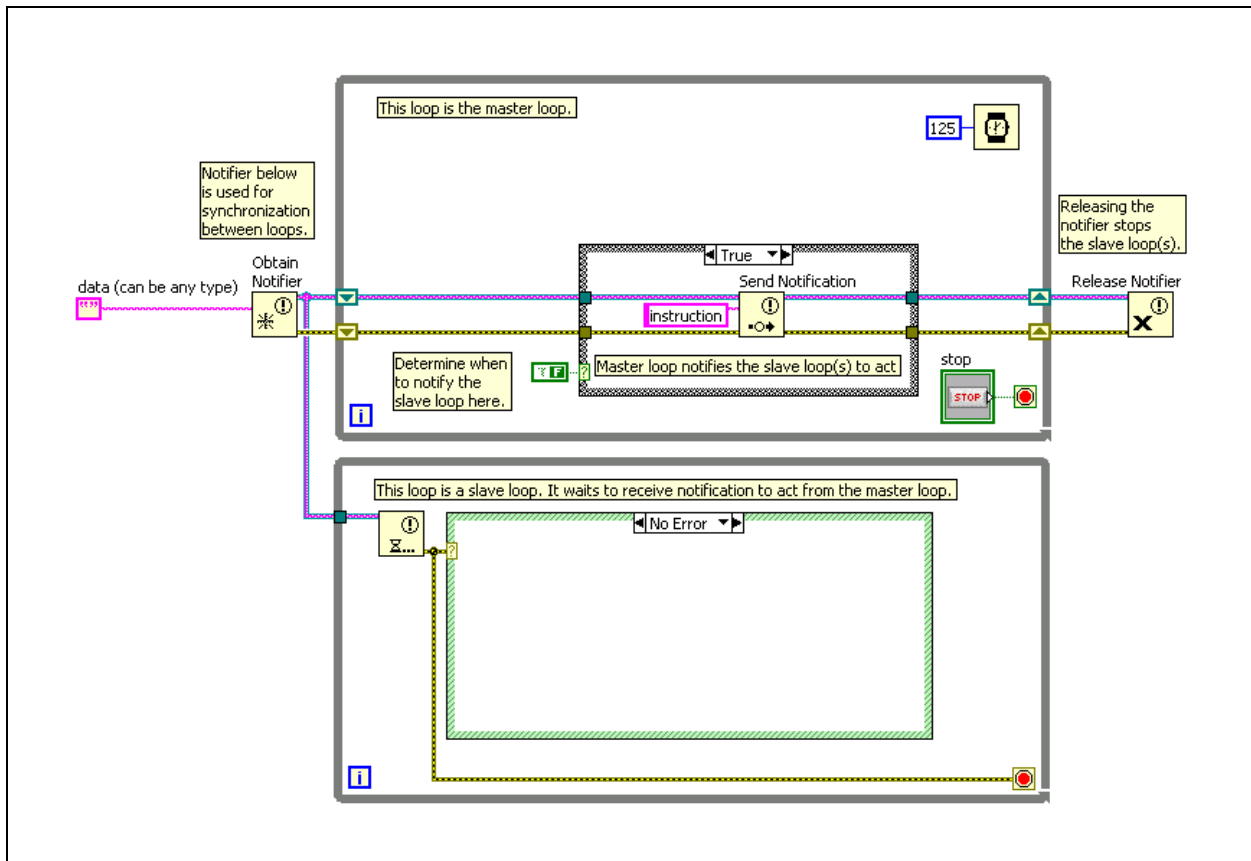

Figure 2-2. Master/Slave Design Pattern Using Notifiers
A more effective implementation of the master/slave design pattern uses notifiers to synchronize data transfer. A notifier sends data along with a notification that the data is available. Using a notifier to pass data from the master to the slave removes any issues with race conditions. Using notifiers also provides a synchronization advantage because the master and slave are timed when data is available, providing for an elegant implementation of the master/slave design pattern. Figure 2-2 shows the master/slave design pattern using notifiers.
- You can use notifiers to create globally available data. Thus, you can send data with a notification. For example, in Figure 2-2, the Send Notification function sends the string instruction.